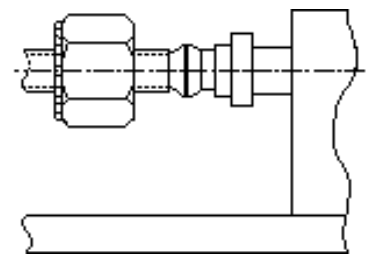

Figure 12. Insertion unit fixing position
- Move the insertion unit forward until the tip of the sleeve holder is just in the tube as shown in Figure 12, and then tighten the locking handle to secure the insertion unit.